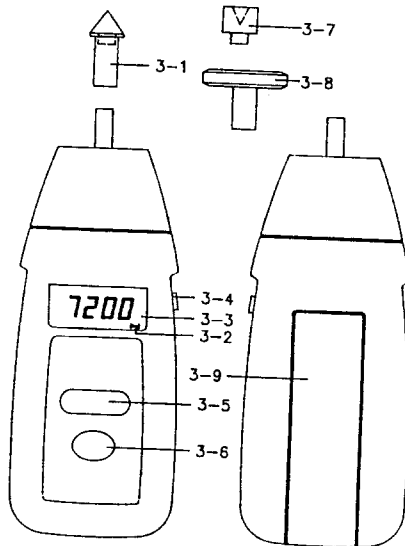

Fig. 1
- 1) Select the " Function Switch " (3-5, Fig.1) to the " Contact RPM " position.
- 2) Depress the " Operation Button " (3-4, Fig. 1) & lightly pressing the " Cone RPM Adapter " (3-1, Fig. 1) against the center hole on the hole of the measured rotating axis. Release the " Operation Button " when the reading stabilizes (approx. 2 secs.).
Making the contact RPM measurement according to different kind measured rotating axis, it may changed the rubber for RPM adapter from "Cone " type to "Funnel " type (3-7, Fig. 1).
- 1) Select the " Function Switch " (3-5, Fig.1) to the " m/min. " or " ft/min. " position.
- 2) Change the " RPM Adapter " instead of the " Surface Speed Wheel " (3-8, Fig. 1).
- 3) Depress the " Operation Button " (3-4, Fig. 1) & simply attaching the surface speed test wheel to the detector. Release the " Measuring Button " when the reading stabilizes (approx. 2 secs.).
- 1) The minimum, maximum and the last (final) readings are automatically stored during measurement. These values can be recalled anytime by pressing the "Memory Call Button" (3-6, Fig. 1).
Release the "Operation Button" (3-4, Fig. 1) first.
- a) Press the "Memory Call Button" (3-6 Fig. 1) once to display the last reading. The symbol "LA" will appear on the display.
- b) Press the "Memory Call Button" (3-6 Fig. 1) once again to display the maximum value. The symbol "UP" will appear on the display.
- c) Press the "Memory Call Button" (3-6 Fig. 1) once more to display the minimum value. The symbol "dn" will appear on the display.
- 2) Open the " Battery Cover " (3-9. Fig 1), replace with new batteries correctly into the battery compartment and reinstate the cover.